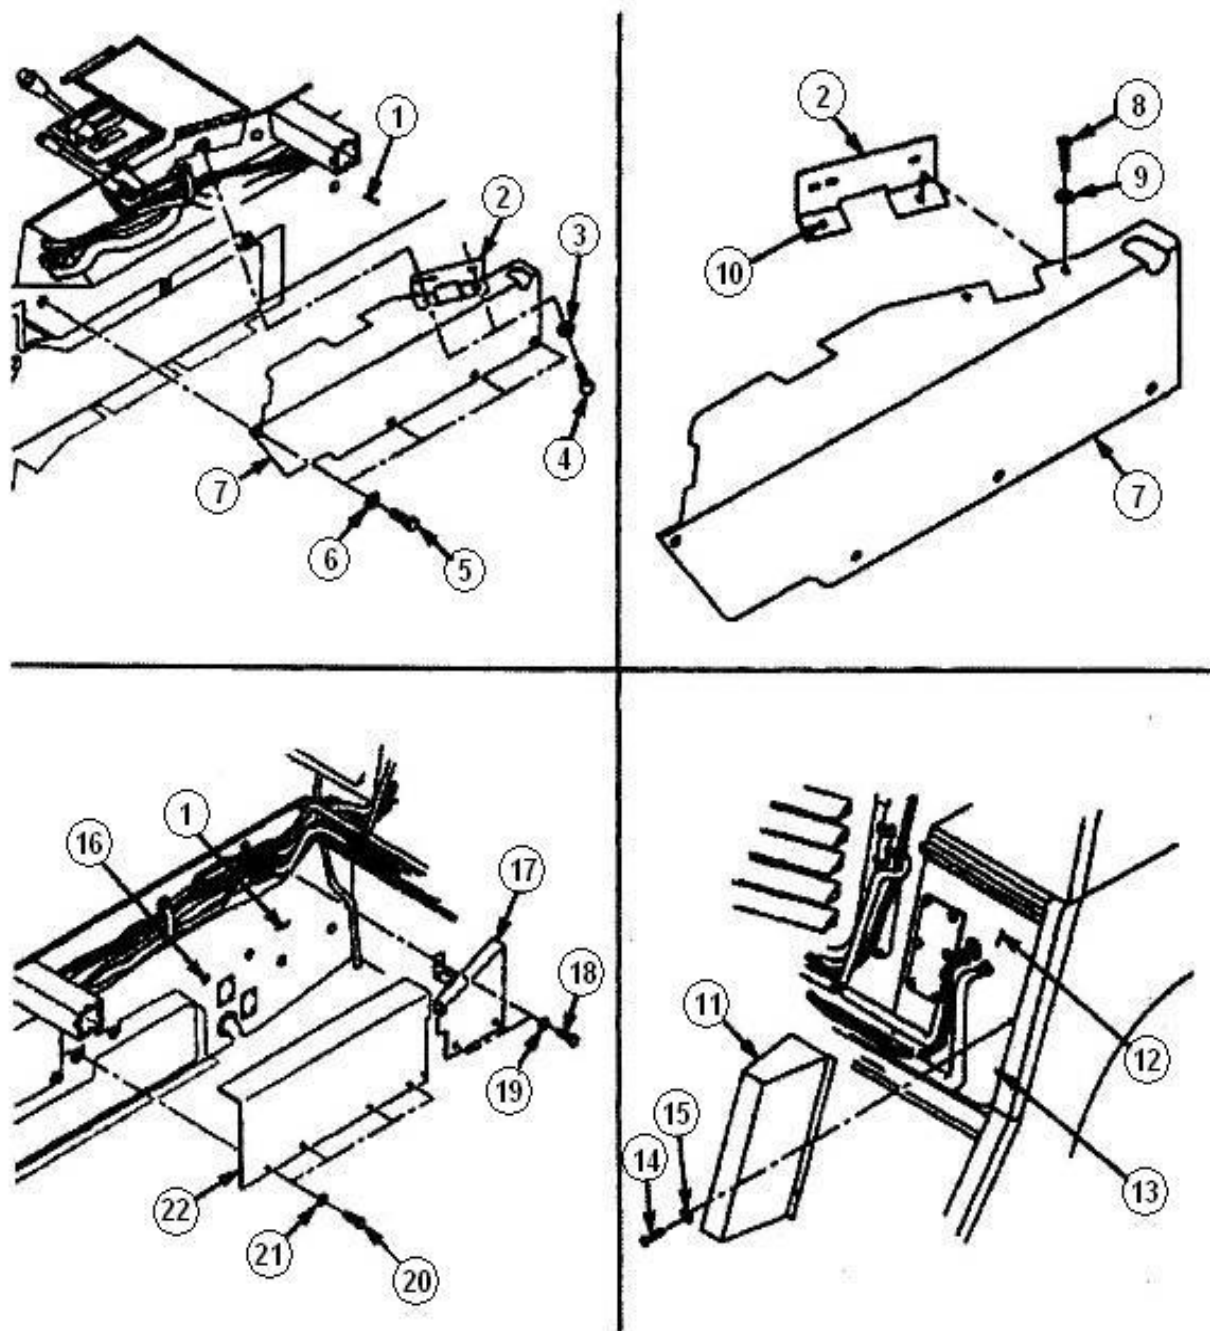

Figure 3
c. A/C Coolant Line Covers Maintenance. Refer to TM 9-2320-387-24-2, Chapter 25, Task Para 25-32, Page 25-84 and **Figure 3** contained in these instructions.
(1) Remove four cap screws (5) and washers (6) from A/C coolant line front cover (7) at left side tunnel (1).
(2) Remove two cap screws (4) and washers (3) from mounting angle (2) at left side tunnel (1).
(3) Remove A/C coolant line front cover (7) with mounting angle (2) from left side tunnel (1).
(4) Remove two screws (8), washers (9), and mounting angle (2) from A/C coolant line front cover (7).
(5) Remove four cap screws (20), washers (21), and A/C coolant line rear B-pillar cover (22) from left side tunnel (1).
(6) Remove three cap screws (18), washers (19), and left rear HVAC lines cover (17) from left side rear tunnel (1).
(7) Remove two screws (14), washers (15), and the left rear HVAC lines cover (11) from left rear wheelhouse (12).